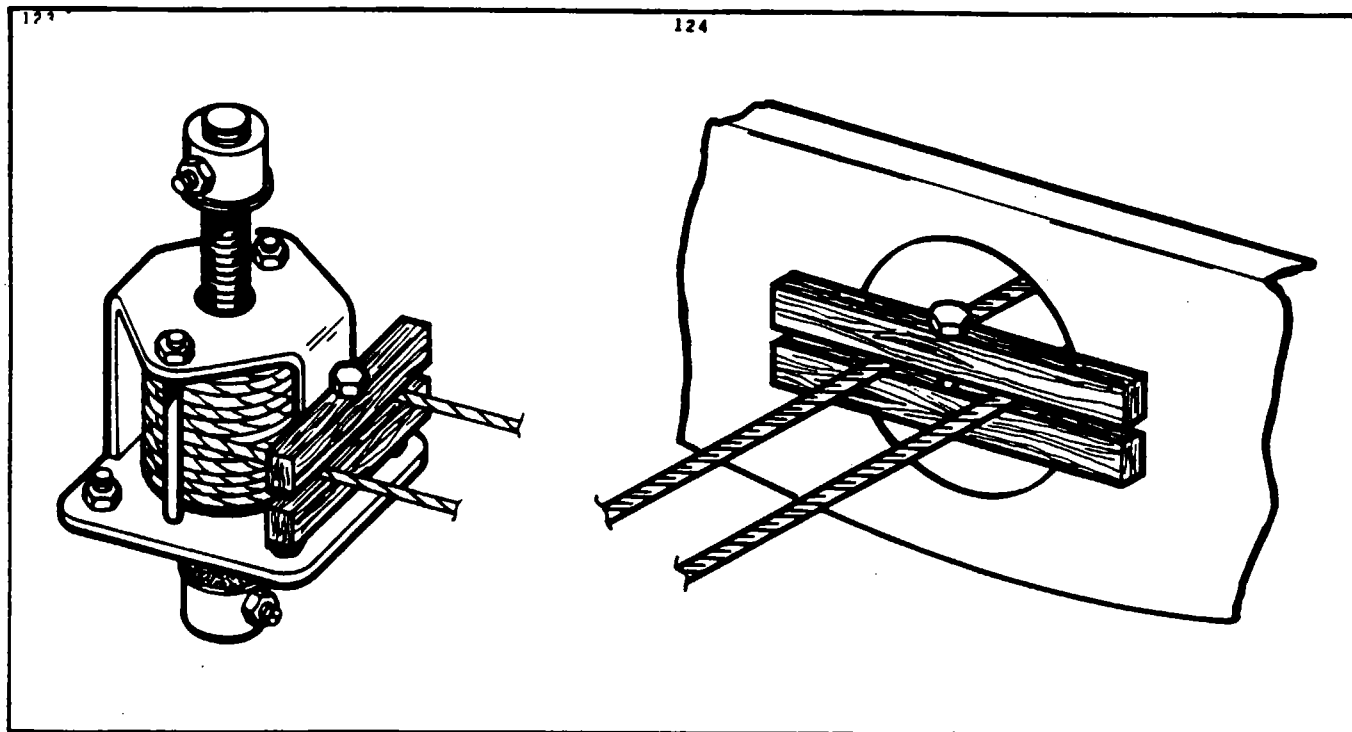

Figure 5-10. Methods of Blocking Trim Cables
f. To prevent the cables from unwrapping from their drums, block the forward trim cables (6) at the trim screw assembly within the control pedestal and the aft cables (13) at bulkhead 317.75. by one of the methods shown in Figure 5-10. If the aft screw assembly (19) is also to be removed, remove the access plate attached to the underside of the horizontal stabilizer, and block the cables at the screw assembly instead of in the fuselage.)
g. Mark one set of cable ends at station 291.00 to facilitate installation and disconnect the cables at the turnbuckles (12).
- c. Block the trim cables to prevent them from unwrapping at the screw assembly within the horizontal stabilizer and within the fuselage at the bulkhead at station 244.00 by one of the methods shown in Figure 5-10. (If the trim assembly within the fuselage is also to be removed, then block the cables at the trim screw assembly in the control pedestal.)
- d. Mark one set of cable ends within the fuselage at station 291.00 to facilitate installation and disconnect the cables at the turnbuckles (12).
- f. Disconnect the electrical leads from the sender unit (35).
- g. Disconnect the trim control rod (20) from the trim screw (32).
- h. Remove the cap bolts (37) that attach the screw assembly (19) to the stabilizer spar.